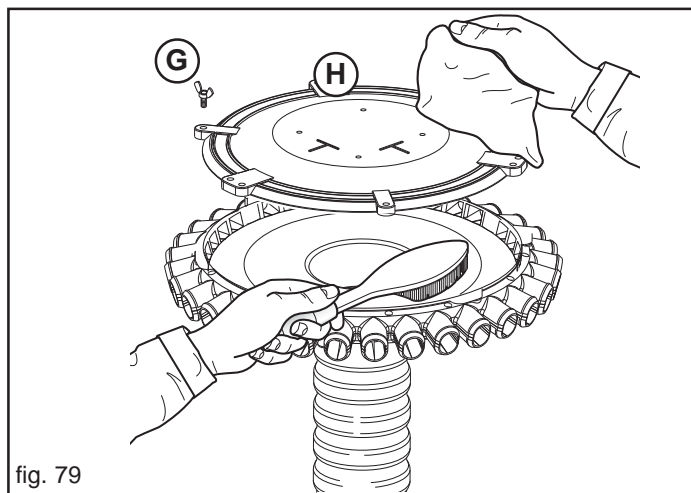
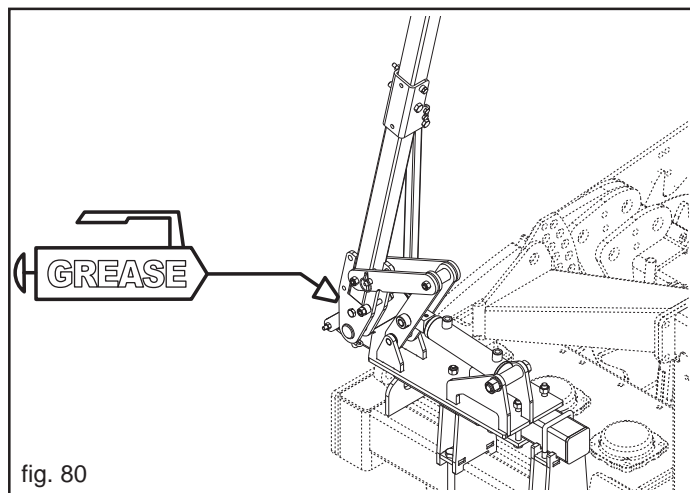
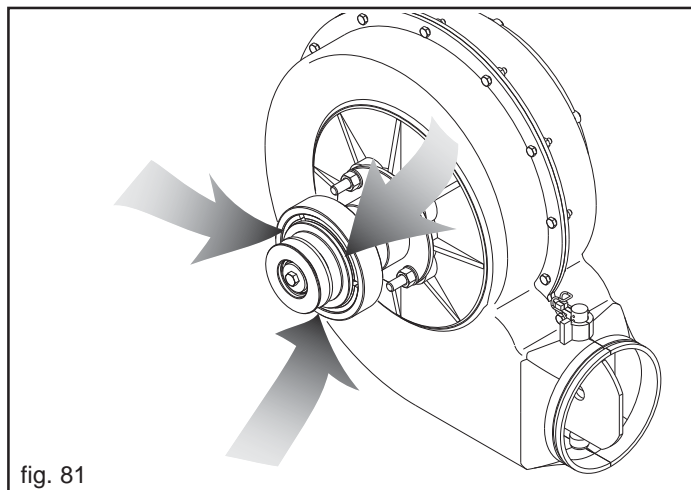

fig. 79
fig. 80
fig. 81
EVERY 50 WORKING HOURS	<ul style="list-style-type: none"> - Clean the distributor carefully and thoroughly (see cap. 3.4). - Thoroughly clean the entire distribution head (Fig. 79) as follows: <ul style="list-style-type: none"> • loosen and remove the wing nuts (G); • remove the cover on the distributor (H); • clean metal parts with a brush and plastic parts with a cloth; • put the cover back in place and close it with the wing nuts. - Grease the row marker arm pin (Fig. 80). - Clean the blower clutch with a jet of air (Fig. 81).